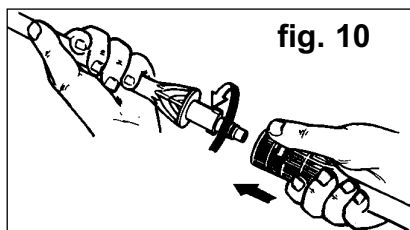
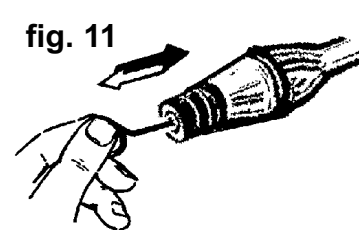

fig. 10
fig. 11
5.4. Take the nozzle cleaning tool (fig. 1.8), detach the lance from the gun (fig. 10) and remove any dirt from nozzle (fig. 11), then rinse.